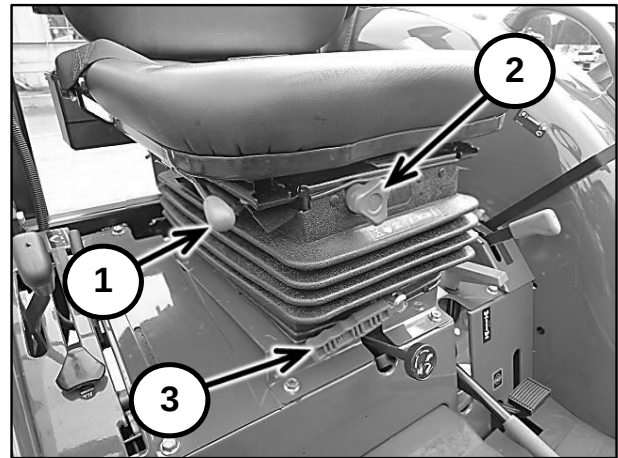

Figure 2-1
To adjust the seat fore and aft, move the release lever (1) in Figure 2-1, towards the fender, slide the seat to the desired position, releasing the lever to lock.
The seat height is controlled variable by the knob (2) in Figure 2-1. While sitting in the seat, turn it clockwise to increase the height, or turn it counterclockwise to reduce the height.
To adjust the seat suspension for individual operators; with moving the lever (3) in Figure 2-1, straight up, turn it clockwise to be for "+" and turn it counter-clockwise to be for less "-".